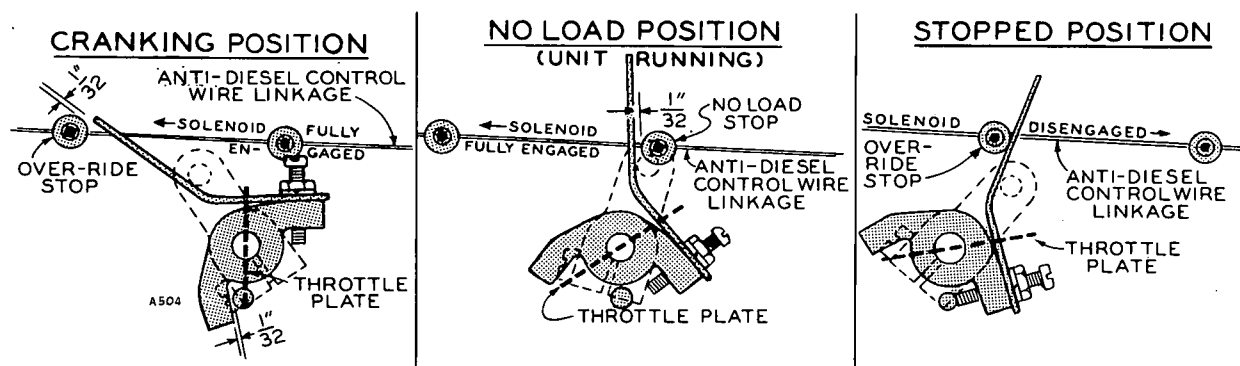

FIGURE 34. THROTTLE STOP
8. **Throttle Stop**—With the engine stopped, see that the throttle stop lever screw (attaching the override lever, Figure 34) engages the carburetor throttle stop pin by $1/4$ to $1/2$ turn. This can be done by backing off the screw until it just clears the stop pin, then turning in $1/4$ to $1/2$ turn. This provides a "cracked open" throttle for good starting characteristics. Do not adjust the screw so far as to cause the engine to "diesel" and refuse to stop, thus defeating the purpose of the anti-dieseling control.